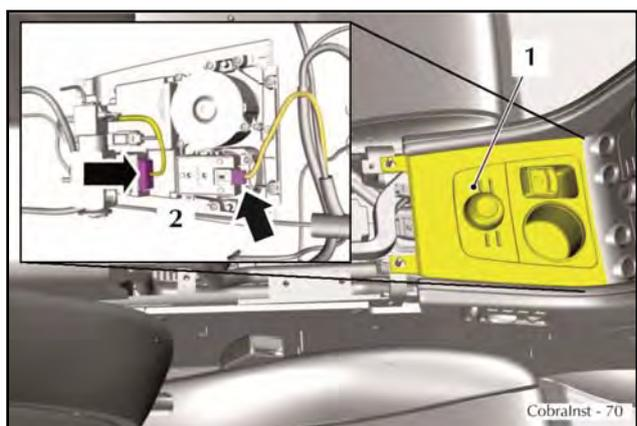

Figure 104
139. Engage the tabs (1) on the console side panels (2) onto the mounting studs (3 and 4) (refer to Figure 104).
141. Put the centre console (1) loosely into position (refer to Figure 104).